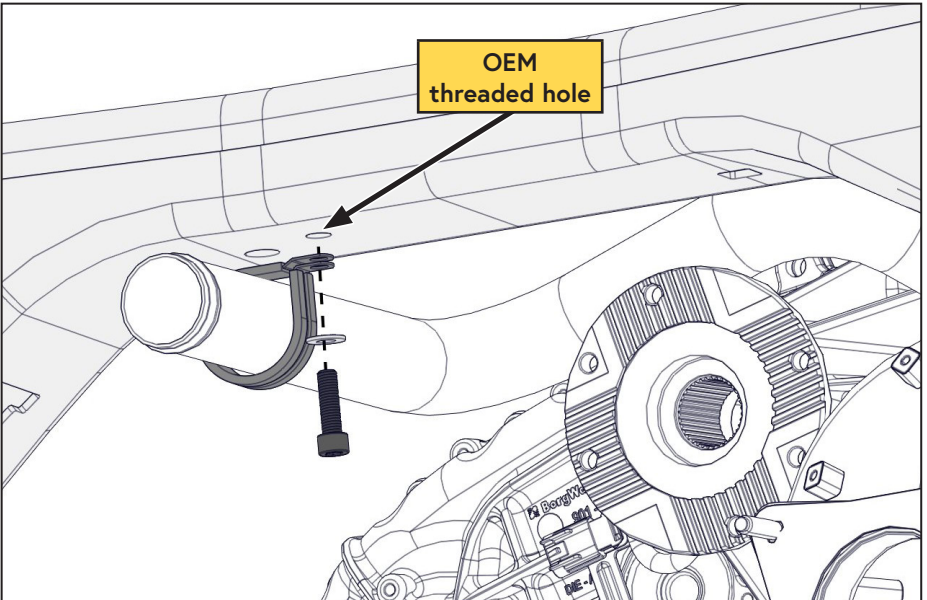

Figure 23 — Secure filter side intake tube
- ☐ Secure the filter side intake tube to the cross member using the supplied P-clip, bolt, and washer (Figure 23).